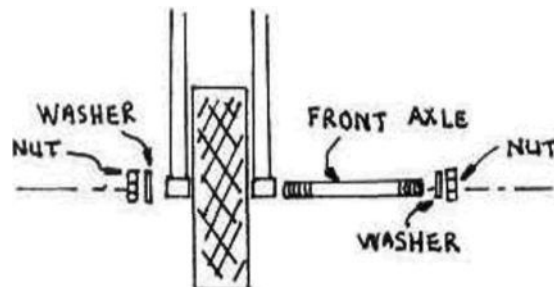

FIGURE 15
11. Install the front wheel assembly as shown in Figure 15, using a self-locking nut at each end of the axle.